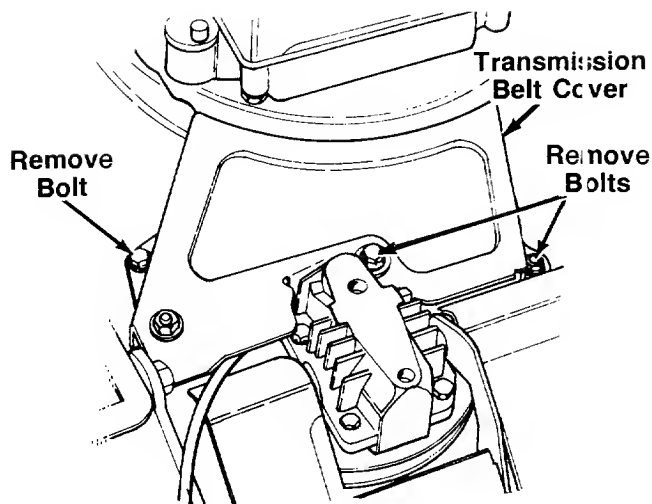

FIGURE 28.
4. Remove the transmission belt cover by removing three bolts. See figure 28.